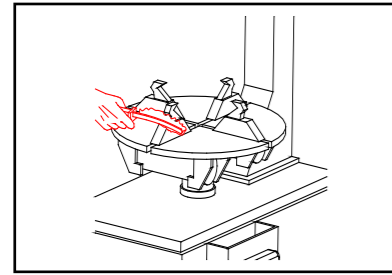

Fig.11
- Clean the moving parts of the turntable. (See Fig.11.)